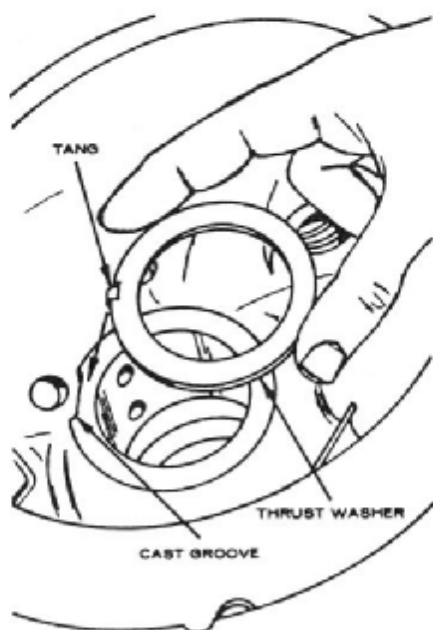

FIG. 9 THRUST WASHER USED FOR 2.10 REDUCTION UNIT
2. Coat steel back of thrust washer with petroleum jelly. Install thrust washer on inside thrust surface of case with washer tang positioned in case groove as shown in (Fig. 9).